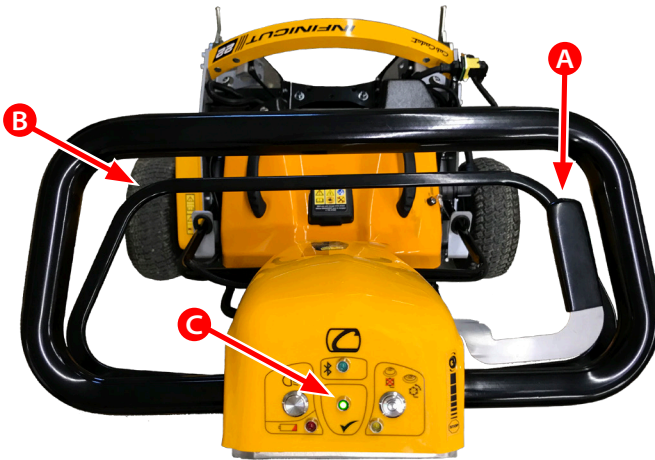

Figure 14
2. Set Direction Switch (FORWARD/REVERSE) to desired direction of travel and make sure throttle (A) is fully pulled up and back towards steering handle. See Figure 14.
3. Pull up on bale handle (B) and hold in position, the green OPC light should be on (C). See Figure 14.